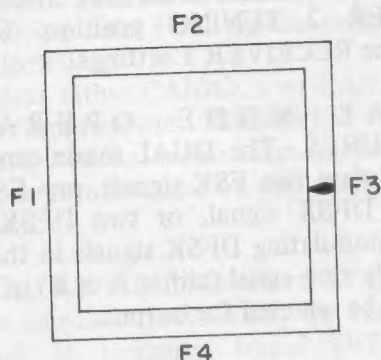

Figure 4-12.—F3 Peaked.
k. Rotate the BFO MICRODIAL counterclockwise until the dot returns to the center of the CRT. Now rotate the F3 DEFL GAIN clockwise until the dot is slightly off the center of the CRT. Adjust the BFO MICRODIAL and F3 DEFL GAIN until the dot is between the vertical lines on the right side of the CRT display (see figure 4-12). Note the BFO MICRODIAL